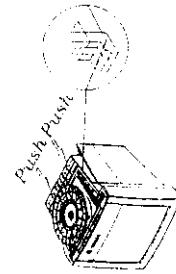

Figure 2
3. Push the tilt swivel and base in the direction of arrow (↖) as indicated in Figure 2 to lock the hooks.